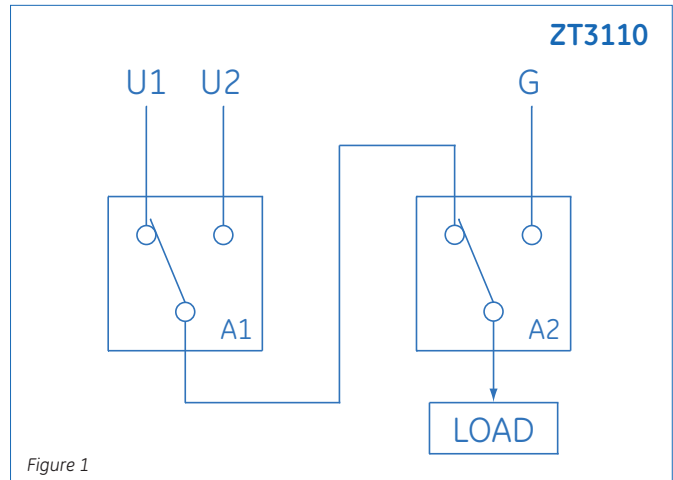

Figure 1
When the primary source (U1) fails, the master transfer switch (A1) connects the load to the secondary utility (U2). Should this source also fail, the engine generator (G) will start and the source selector transfer switch (A2) will connect the load to the genset (G) when it reaches proper operating parameters. (see Figure 1)